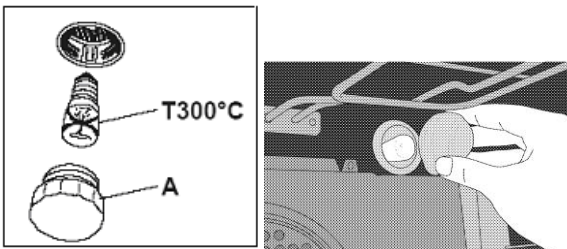

Figure 14
- ❖ To replace the lamp, proceed as follows (**See Figure 14**) ;
1. Glass on the outer casing (A) remove the counter-clockwise,